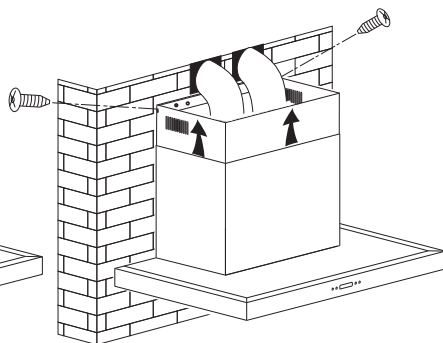

Fig. 8
- Slide the inner flue cover upwards, then connect the inner flue cover to the bracket with 2 ST 4 x 8 screws. See figure 8.